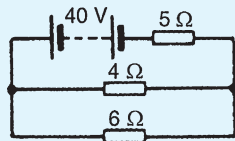

Figure 13.50
- Use Thévenin's theorem to find the current flowing in the  $6\ \Omega$  resistor shown in Fig. 13.50 and the power dissipated in the  $4\ \Omega$  resistor.